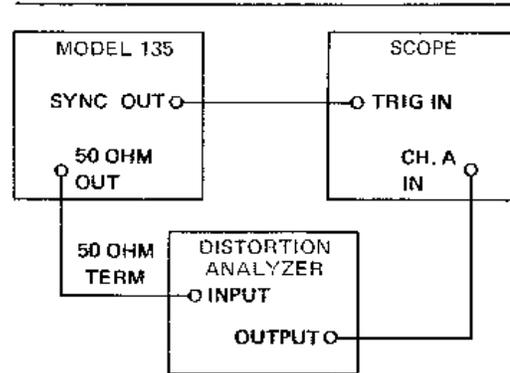

Figure 4-2. Distortion Analysis Test Setup
5. Connect the unit, distortion analyzer, and oscilloscope as shown in Figure 4-2.